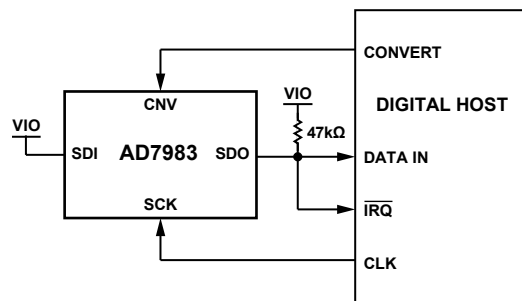
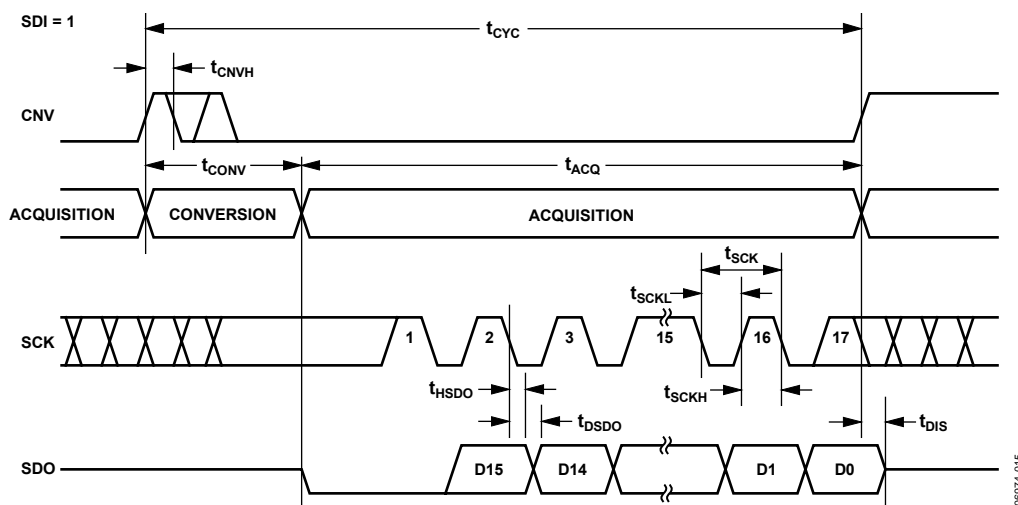
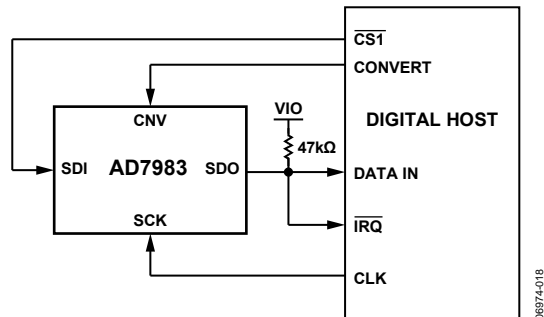
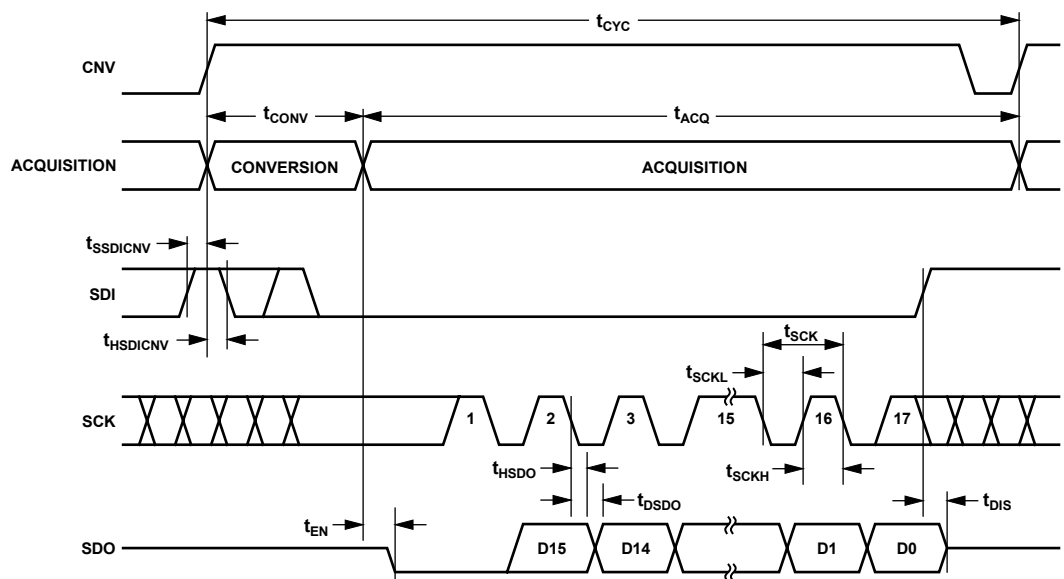

Figure 28. $\overline{\text{CS}}$ Mode, 3-Wire with Busy Indicator Connection Diagram (SDI High)
Figure 29. $\overline{\text{CS}}$ Mode, 3-Wire with Busy Indicator Serial Interface Timing (SDI High)
Figure 32. $\overline{\text{CS}}$ Mode, 4-Wire with Busy Indicator Connection Diagram
Figure 33. $\overline{\text{CS}}$ Mode, 4-Wire with Busy Indicator Serial Interface Timing
- In \overline{CS} mode if CNV or SDI is low when the ADC conversion ends (see Figure 29 and Figure 33).
The connection diagram is shown in Figure 28, and the corresponding timing is given in Figure 29.
The connection diagram is shown in Figure 32, and the corresponding timing is given in Figure 33.